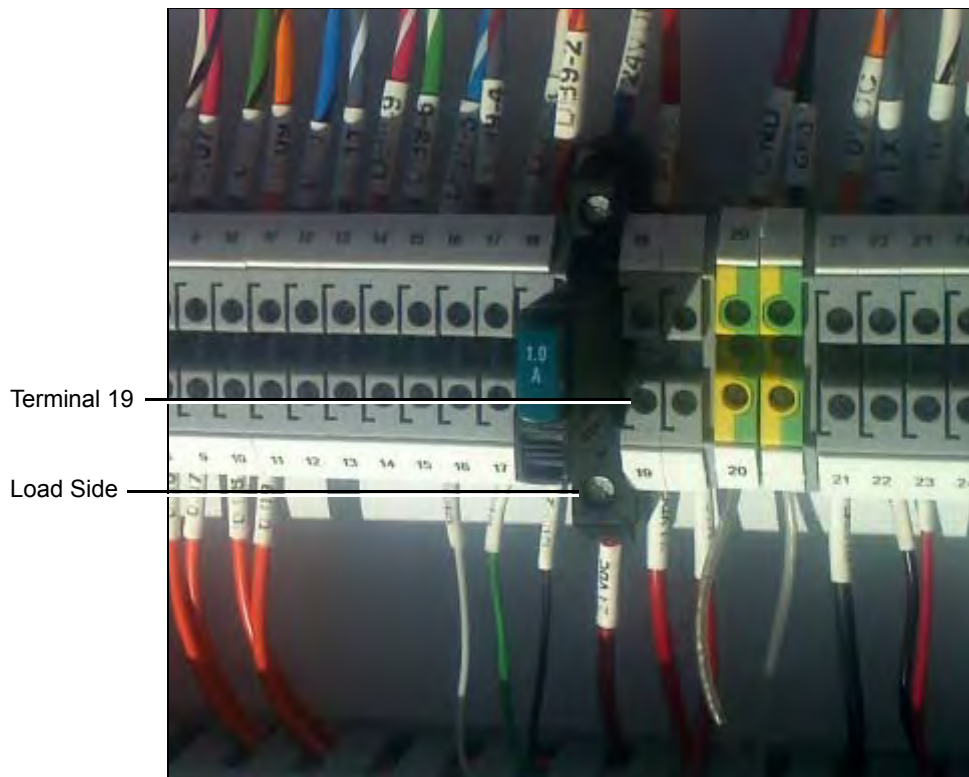

Figure 1: Locating the Load Side of the Breaker
2. Determine the load side of the current breaker by tracing the wire coming from terminal 19 back to the breaker (see Figure 1), and make note of its location.